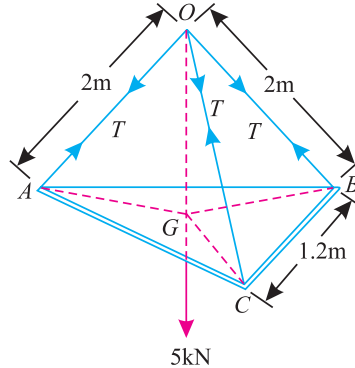

Fig. 5.34.
4. A ladle is lifted by means of three chains each 2 m in length. The upper ends of the chains are attached to a ring, while the lower ends are attached to three hooks, fixed to the ladle forming an equilateral triangle of 1.2 metre side as shown in Fig. 5.34.